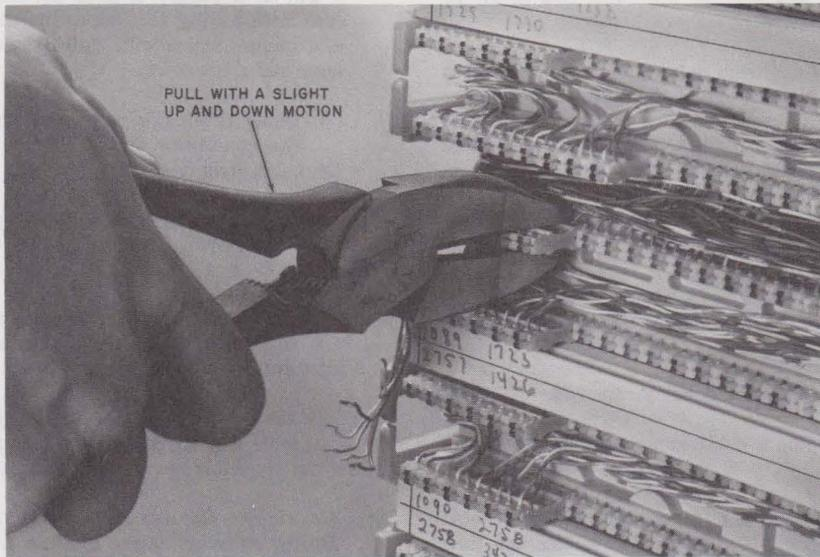

Fig. 25—Removing Connecting Block
- (c) Using a pair of combination or side-cutting pliers, grip the 88-type connecting block firmly in the center as shown in Fig. 25, then gently pull with a slight up-and-down motion to release the connecting block from index strip. **Do not reuse connecting block.**